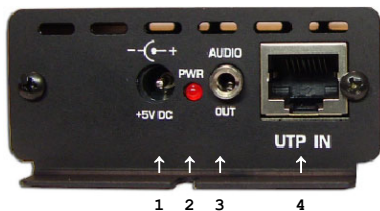

Figure 2.1
Figure 2.1 shows the receivers Side 1 Panel. Table 2-1 describes its components.
2. Using Category-5 cable, connect the output of the Splitter to the AC155A-R3 Receiver's UTP IN connector (see Figure 2.1)
4. Attach the supplied power supply to the AC155A-R3 (Figure 2.1) and plug it in the AC power outlet.